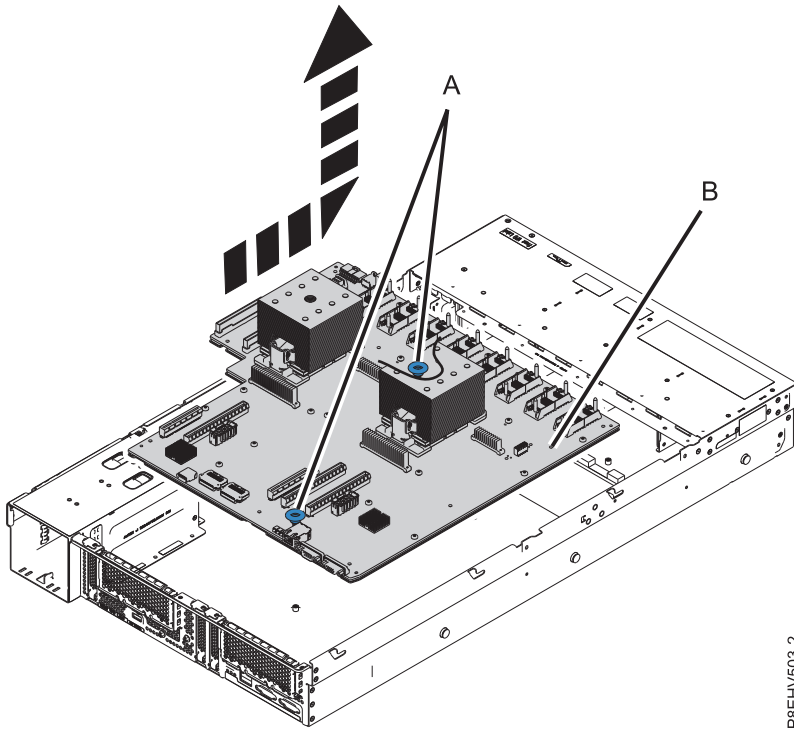

Figure 118. Lifting out the system backplane
14. Using the blue lift points (A), slide the system backplane (B) towards the fans, then lift to remove it. See Figure 118 on page 100.